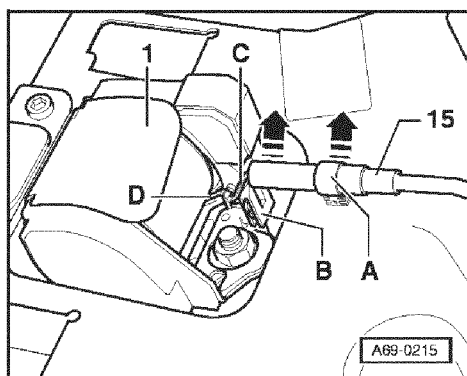

Fig.1 Disconnecting Bowden cable at belt reel
- Disconnect Bowden cable -15- at belt reel -1- => Fig. 1